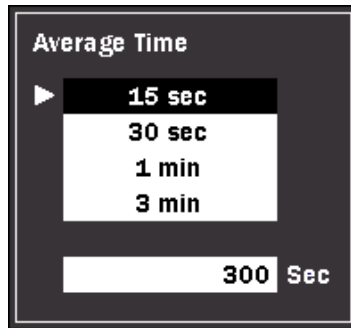

Figure 6-13: Average Time Dialog box
Specify the Average Time/Average Count by either selecting one of the four pre-set values or by entering the desired value in the field at the bottom of the dialog box (see Figure 6-13 on page 6-35).
2. Press the **Enter** key. The Average Time dialog box appears (see Figure 6-13).
The “Time” and “Count” selections are only available when the language is set to Chinese and are not show in Figure 6-13.